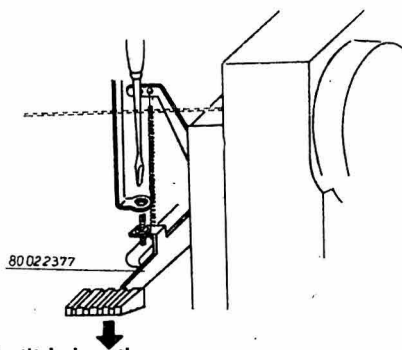

fig. 11
- Adjusting at thread plug with pressed down lock key (fig. 11).